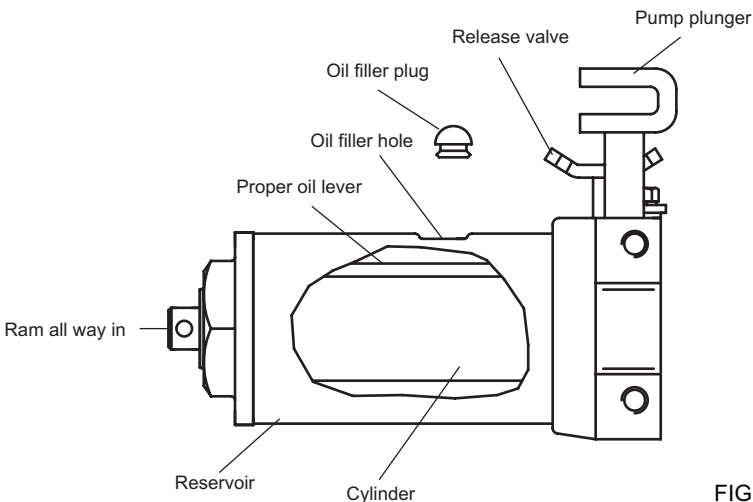

FIG. 4
- Remove the oil filler plug from the cylinder. (see Fig. 4)
- Check ram and pump piston (see Fig. 4) every few months for any signs of rust or corrosion. Clean as needed by wiping with an oily cloth.